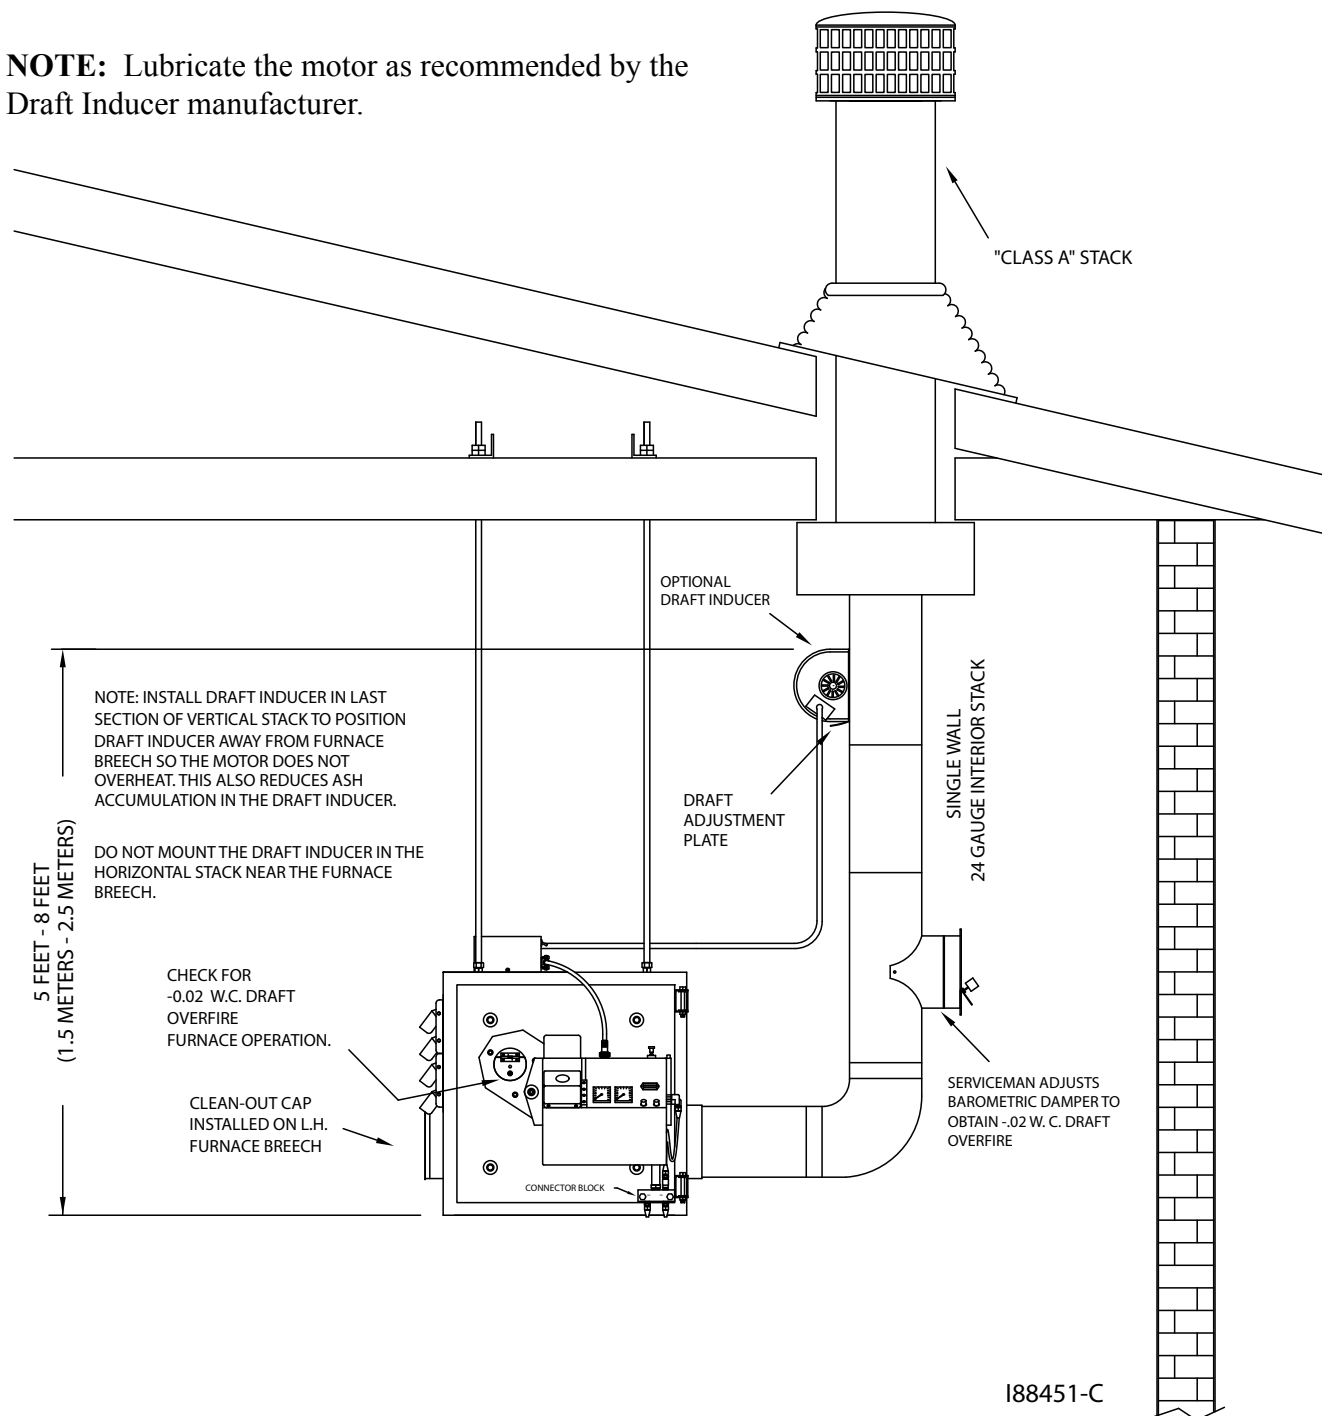

Figure 4Q - Installation of the Optional Draft Inducer
The draft inducer is designed to aid in the removal of the natural draft created by the appliance to vent the combustion gases to the outside of the building. As the paddle wheel turns, a negative pressure is maintained within the stack so that the combustion gases can leave the furnace and travel out of the stack. (See Figure 4Q.) ***Proper sizing, installation, and adjustment of the draft inducer are critical for optimal draft inducer operation.***
1. Refer to Figure 4Q. Follow the instructions included with the draft inducer to mount the draft inducer on the section of single-wall vertical stack.